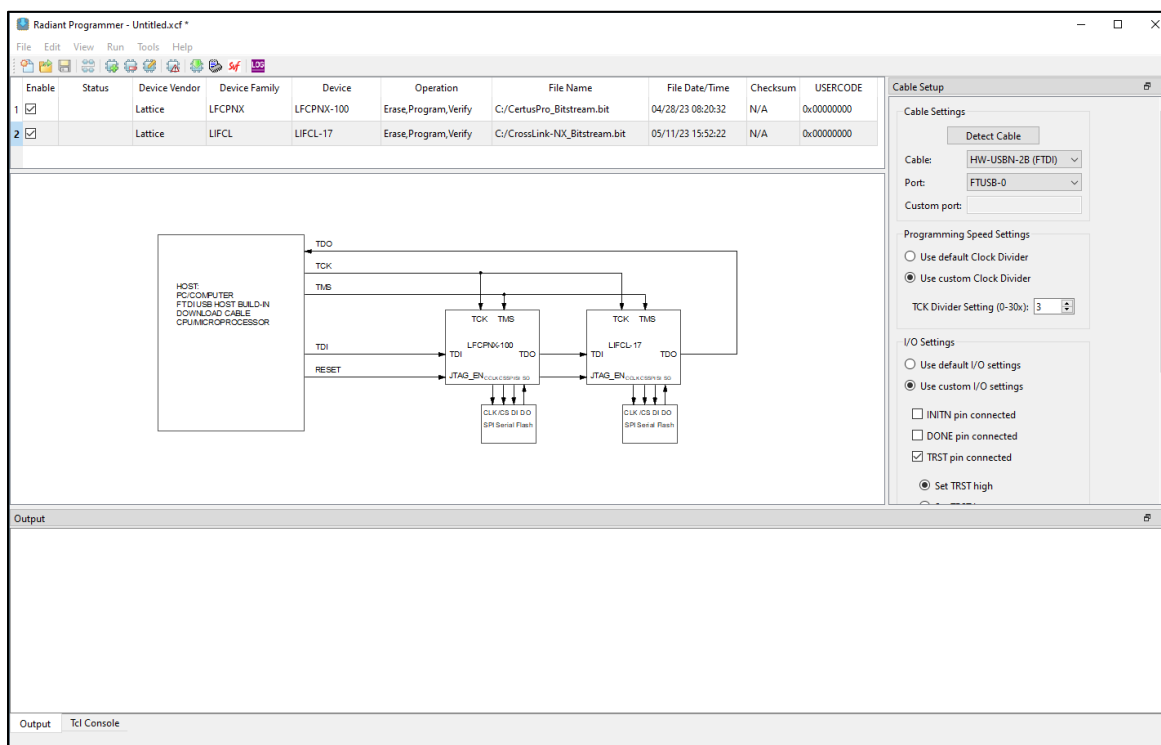

Figure 3.9. Lattice Radiant Programmer – External Flash Configuration
2. When the board is successfully scanned, the window shown in Figure 3.9 opens. This interface allows you to enter the file name.